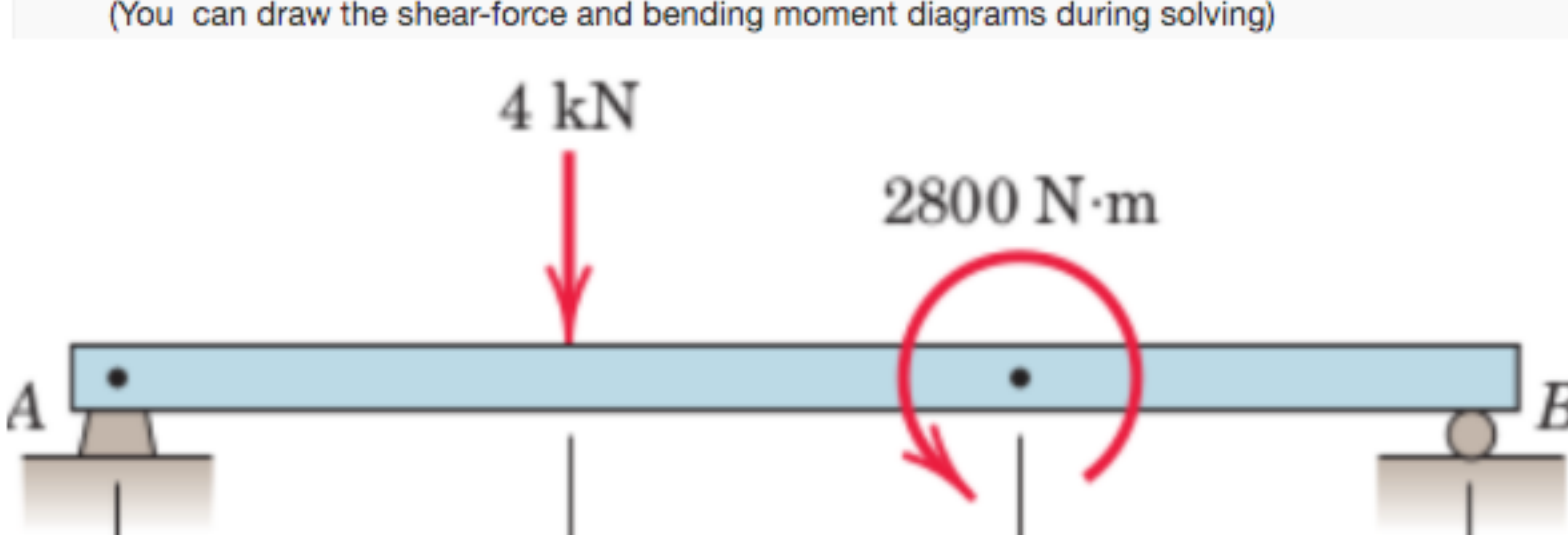

Figure 5: Figure for question No.5
5) Consider the loaded simple supported beam as shown in Figure 5. The magnitudes of the shear force and bending-moment at the middle of the beam are **1 point**